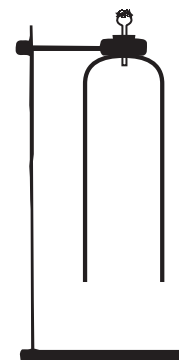

Figure 1.
1. Cut the bottom off a tall, narrow water or soda bottle. Plug the top of the bottle with a one-hole stopper containing a short piece of glass tubing. Assemble the apparatus by clamping the bottle to a ring stand. Attach a 3–4 foot long piece of $\frac{3}{16}$ " ID latex tubing from the bottle and to a drying tube attached to a rubber stopper (see Figure 1).